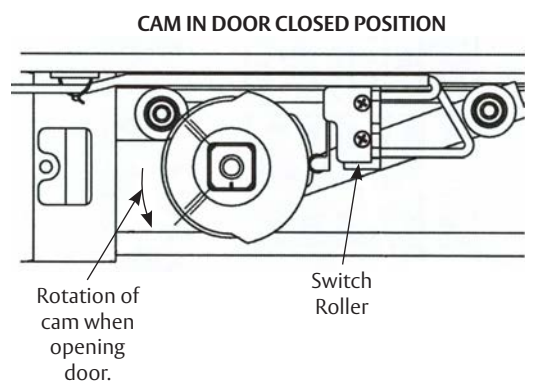

Figure 10
4. Pull door open to desired hold open position. When switch roller travels down to bottom of incline, door closer will function as a standard multi-point holder. (Figure 10) Depending on door size and closer fall back, cam may need to be adjusted so that switch roller is positioned further from base of incline. When cam is positioned properly for desired door operation, tighten both set screws firmly.